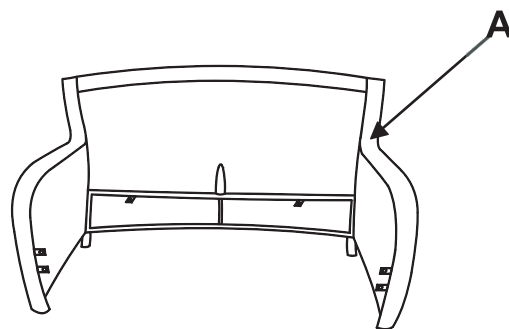

Figure 1
Step 1. Place the seat frame (A) on a flat surface. (Figure 1)